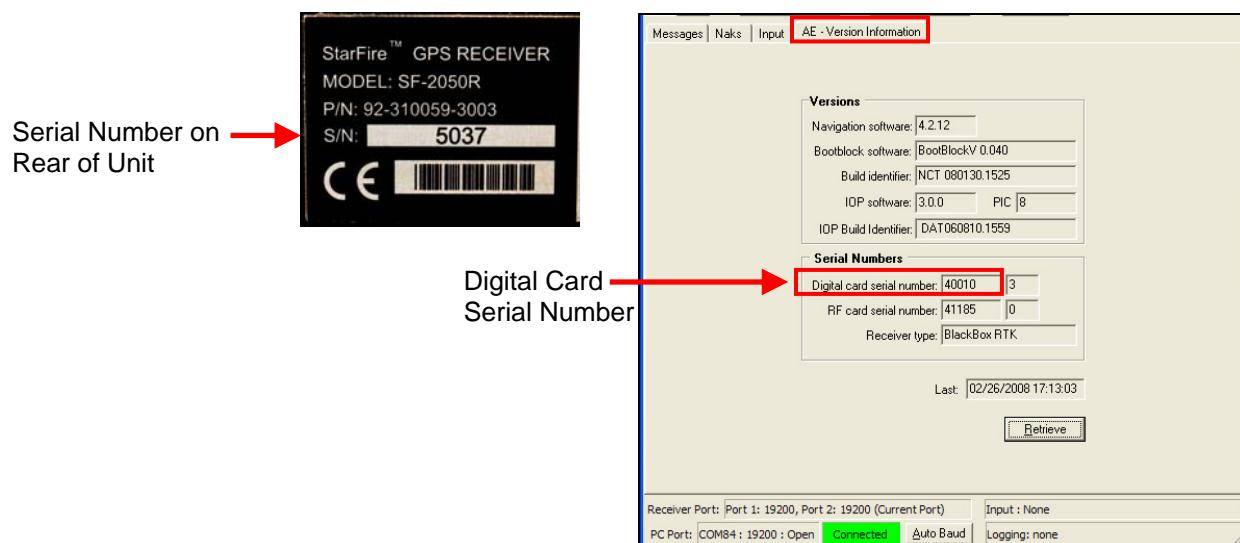

Figure 1: Unit & Digital Card Serial Numbers
- ✓ Refer to Figure 1 to locate: